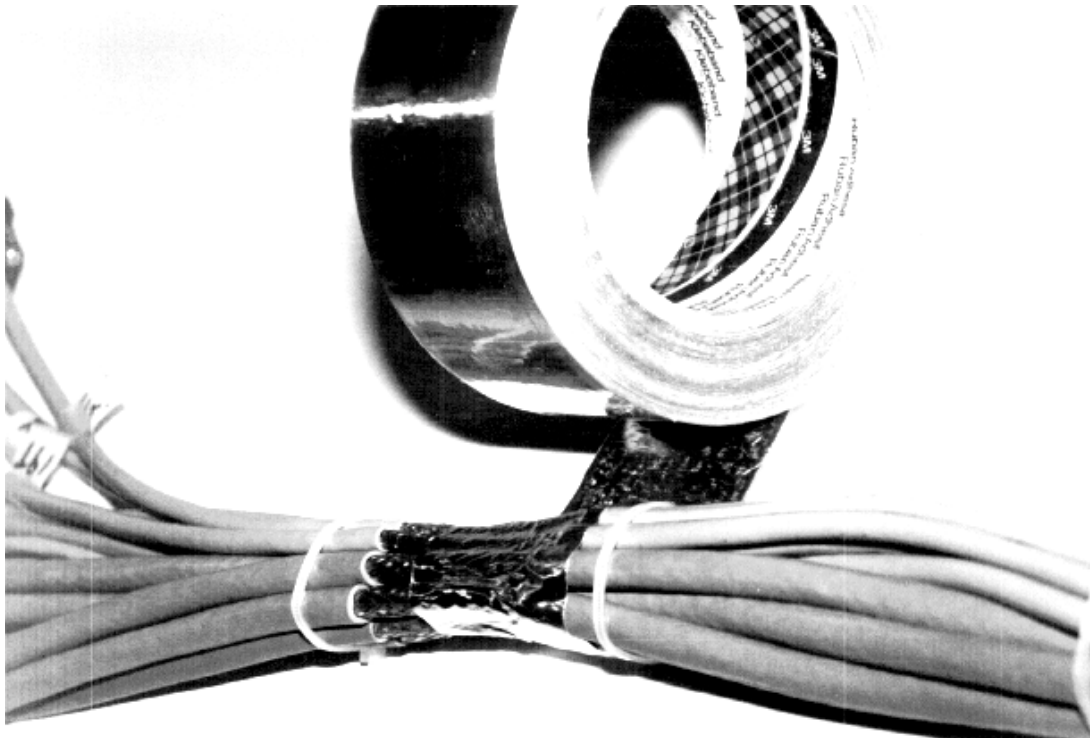

Fig. 4
- Figure 4 shows an optional operation which we recommend. It consists of protecting the cables where they have been stripped with an aluminium or copper tape which conjointly acts as an earth conductor and a mechanical protection.